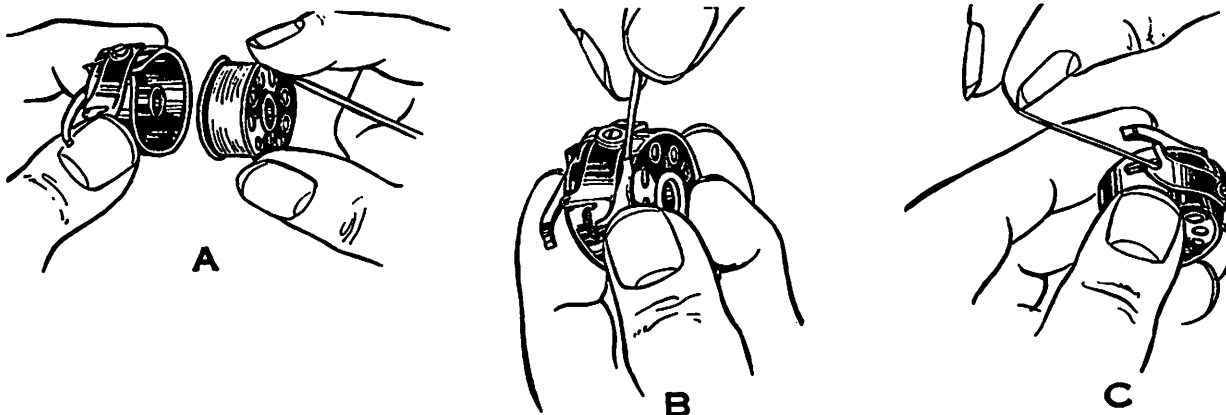

Figure 3, Threading Bobbin Case
b. To thread the bobbin case, hold it in the left hand, as shown in A, figure 3, the slot in the edge being near the top, and place the bobbin in the case so that the thread pulls over the top of the bobbin and away from you.
c. Pull the thread into the bobbin case thread slot, as in B, figure 3, draw the thread down under the bobbin case tension spring and into the delivery eye at the end of the tension spring, as in C.